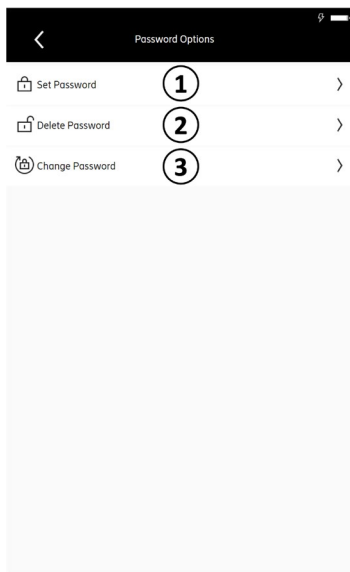

Fig. 106: Sharing: Password options
#### 1. Tap ① in Fig. 106
1. Tap ② in Fig. 106. The following page is shown:
1. Tap ③ in Fig. 106.